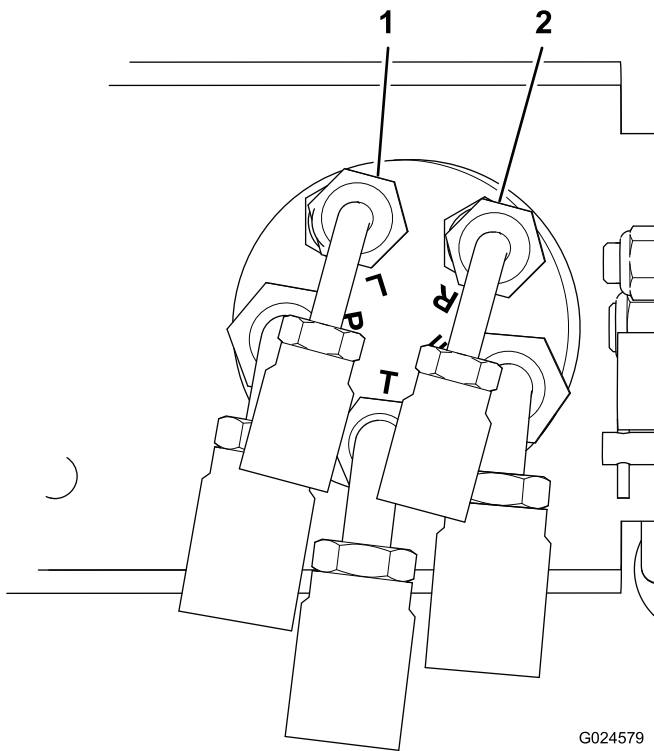

Figure 9
- Connect the 96 inch hose to the port on the steering valve labeled “R” (Figure 9).
- Connect the 94-1/2 inch hose to the port on the steering valve labeled "L"(Figure 9).